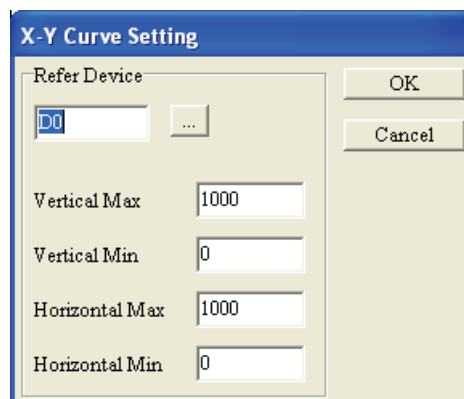

Figure 1-107
Step 1. After choose **Object(O) > X-Y Curve(X)** command from the menu bar or click the icon  on the toolbar to create a X-Y Curve object on the screen. Double-click the selected object by using the mouse, the following X-Y Curve Setting tab will pop up (Figure 1-107).